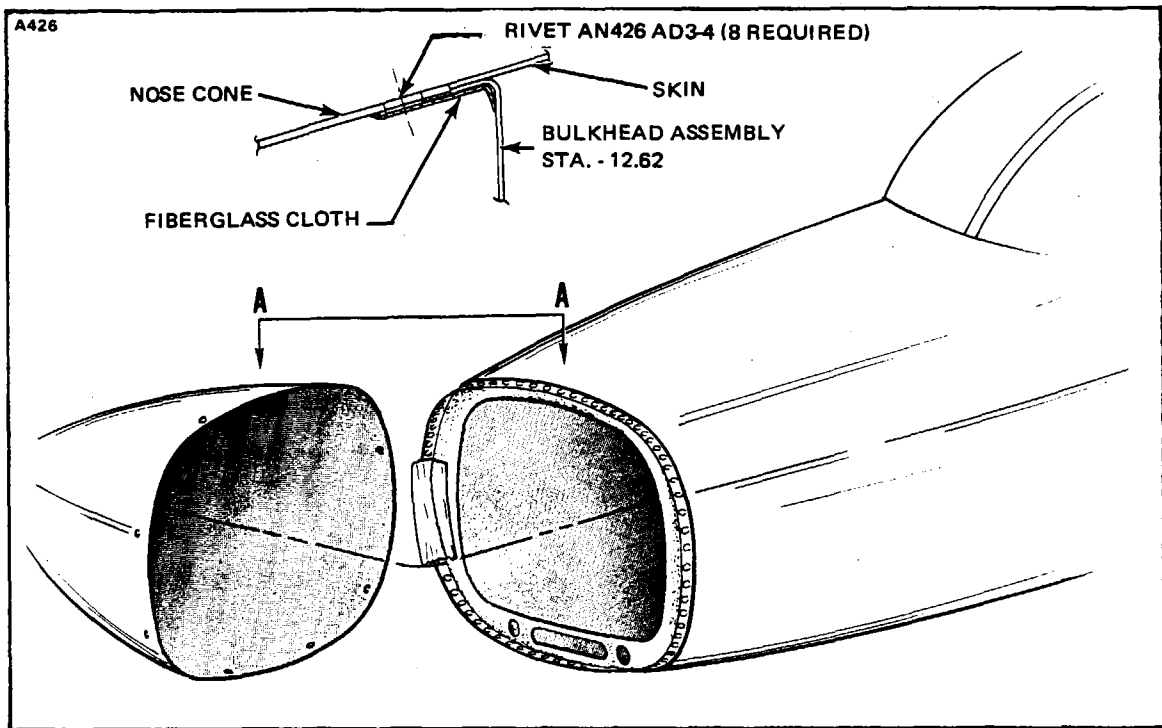

Figure 4-23. Nose Cone Installation, PA-23-250 and PA-23-235
- h. Fasten the nose cone to the fuselage with the application of fiberglass cloth layed up between the inner surface of the nose cone and flange on the bulkhead. (Refer to Figure 4-23 and instructions given on the use of fiberglass in paragraph 4-69.)